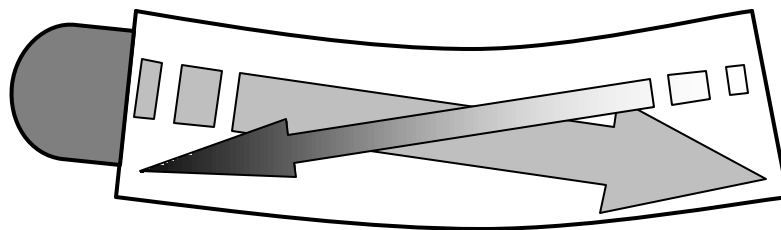

Figure 8
- Nonperpendicular reflecting bolt ends due to bending of the bolt as shown in Figure 8.